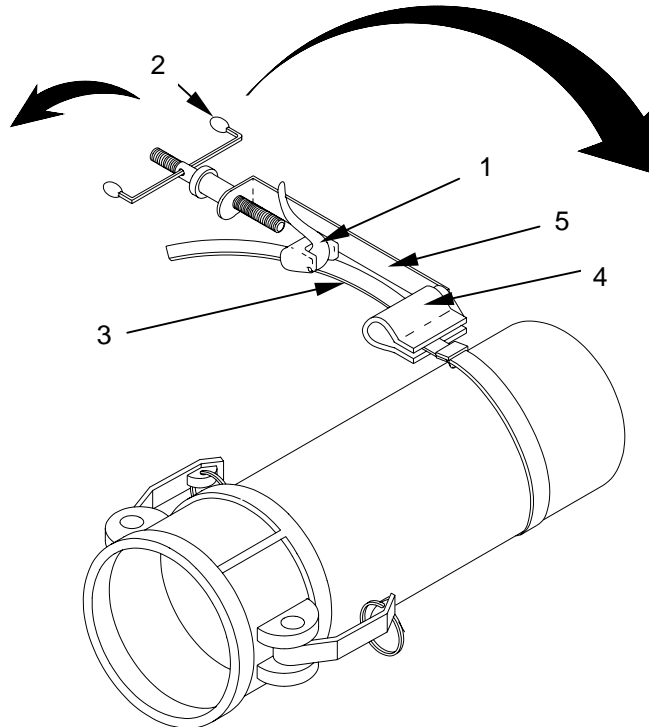

Figure 3. Tightening Banding Strap
- f. Apply pressure to gripper lever (**figure 3, item 1**) and turn handle (**figure 3, item 2**) until banding (**figure 3, item 3**) is snug. The banding tool will lock in place when tension is applied. Reposition tool as required.
- g. Continue turning handle (**figure 3, item 2**) until banding stops moving through buckle (**figure 3, item 4**).
- h. While reversing handle $\frac{3}{4}$ -in turn, roll banding tool to opposite side of buckle (**figure 3, item 4**). This will bend banding (**figure 3, item 3**) and prevent it from slipping through buckle (**figure 3, item 4**) when the banding tool is removed.
- i. Pull cutting handle (**figure 3, item 1**) on tool to cut banding (**figure 3, item 3**).
- j. Remove tool while holding banding (**figure 3, item 3**) stud down on buckle with thumb.
- k. Clinch end of banding (**figure 3, item 3**) by hammering down taps of buckle over banding (**figure 3, item 3**) stud.